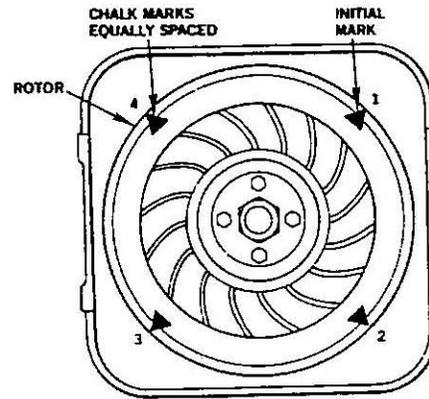

Figure 5
Step 2 Mark off 3 other positions on the rotor as illustrated. Figure 5.